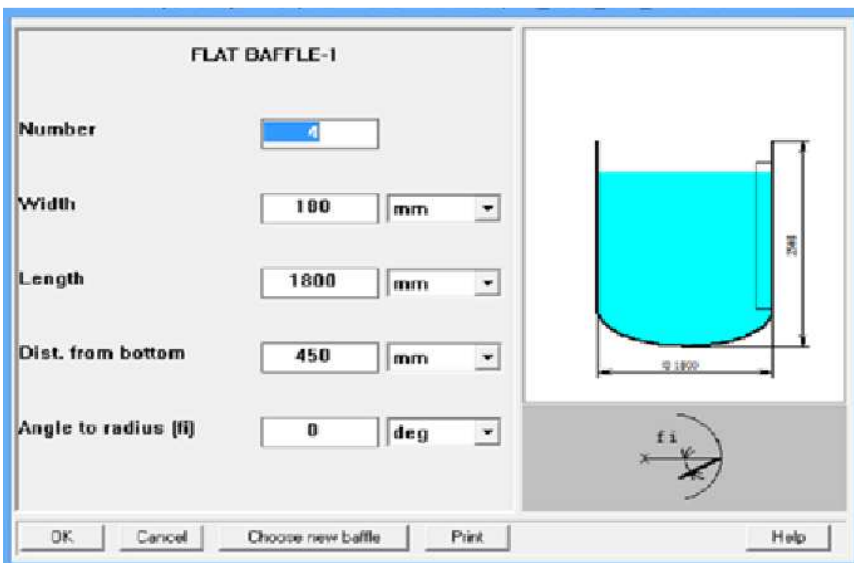

Figure 3. Baffles.
3.2. Entering standard baffles as equivalent for hydraulic resistance of the coil elements (Fig.3).